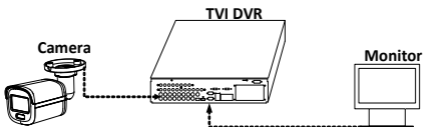

Figure 3-1 Connection
- Connect the camera with the TVI DVR and the monitor, as shown in figure 3-1.